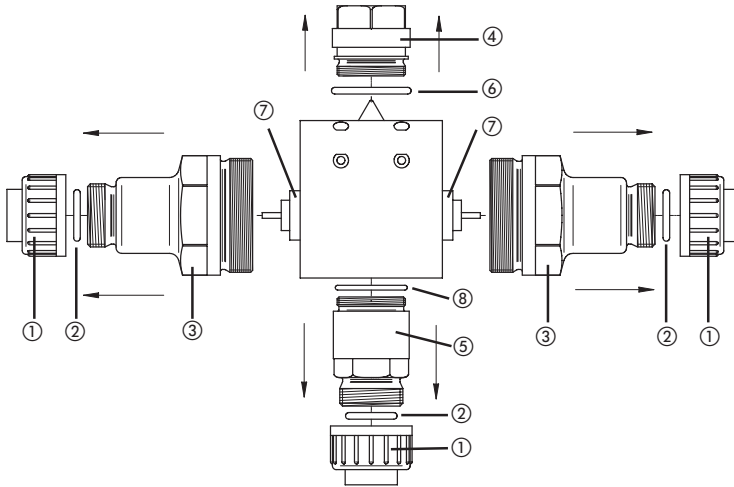
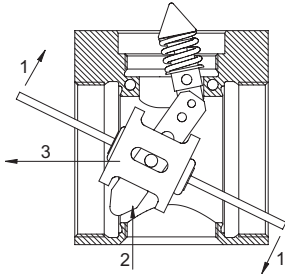

Fig. 8.1: Dismantling the CVS
Fig. 8.2: Removing the shift assembly
- If necessary, undo the three connections ① (see Fig. 8.1).
- Dispose of the three seals ②.
- Release the side connections ③ by hand or with a WAF 55 open-end spanner.
- Make a small mark on the adjustment plug ④ and on the housing for later adjustment. (The setting is marked with locking compound on delivery. It is removed during maintenance.)
- Release adjustment plug ④ by hand or with a WAF 36 open-end spanner.
- Release centre connection ⑤ by hand or with a WAF 32 open-end spanner.
- Dispose of seals ⑥ and ⑧.
- Remove the two side diaphragm mounts ⑦.
1. Fit centre connection ⑤ (see Fig. 8.1) with seal ⑧ in the housing of the CVS.
2. Place diaphragm mount ⑦ in side connections ③ (they are self-centring).
3. Install shift assembly in reverse order as illustrated in Fig. 8.2. The lower tip of the joint must fit in the recess in the centre connection - not in a hole!
5. Screw in one side connection ③ together with diaphragm mount ⑦ from below.
7. Install adjustment plug ④ with seal ⑥. The spring head of the shift assembly is self-centring. Screw in the adjustment plug so that the O-ring only just touches the housing.
8. Only loosely install seals ② and connections ① and tighten after reinstalling the CVS in the system.